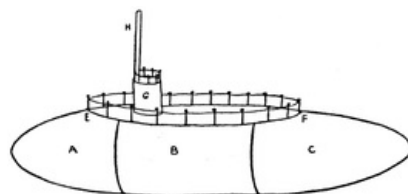

FIG. 124
**A Submarine** (Fig. 124). A, B, C are corks filed to the shapes shown in Fig. 124, and glued together. E F is a piece of cardboard, narrow and pointed at each end, gummed to the corks. Before fastening it on holes should be made in it round the edge. Through these small pins are put and pushed into the corks to form a railing, and round them a piece of black cotton is tied. G is a small cork, or a part of a large cork made small by filing, gummed to E F; a match, H, is inserted to represent the periscope. Pins are inserted round G with black cotton tied round them. The corks, cardboard and matches should be coloured grey.